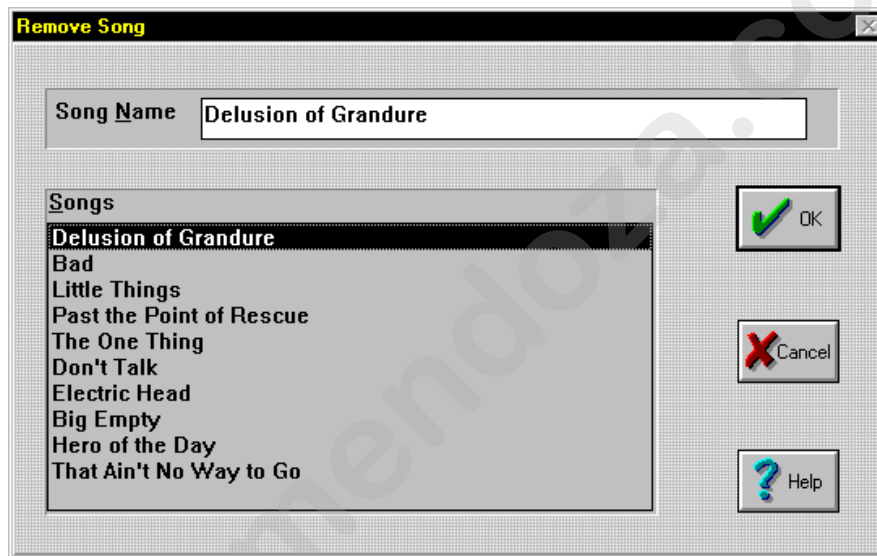

Figure 7.26. Remove Song Dialogue Box
2. Select the **Remove** item from the **Memory** drop-down menu. This will bring up the **Remove Song** dialogue box. Refer to Figure 7.26.